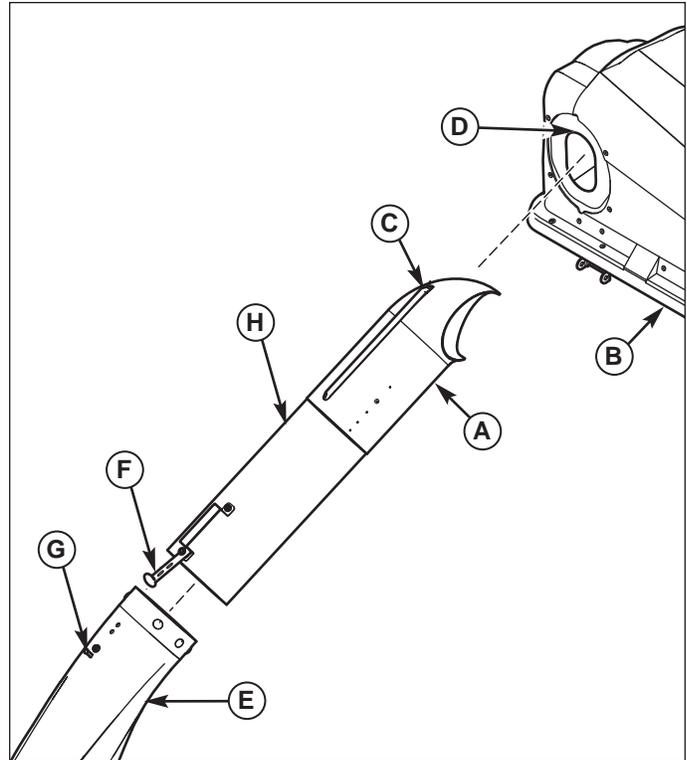

Figure 8. Connecting Tube Assembly to Lower Chute and Cover
1. Slide the upper tube (A, Figure 8) into cover (B) aligning ridge (C) with cutout (D) as shown.
2. Slide tube assembly(H) over lower chute (E). Secure tube assembly (H) to lower chute (E) using strap (F) and pin (G).